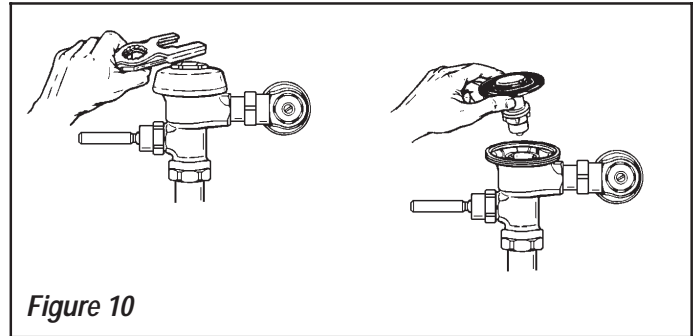

Figure 10
Step 9 — Flush Out Supply Line (Figure 10)